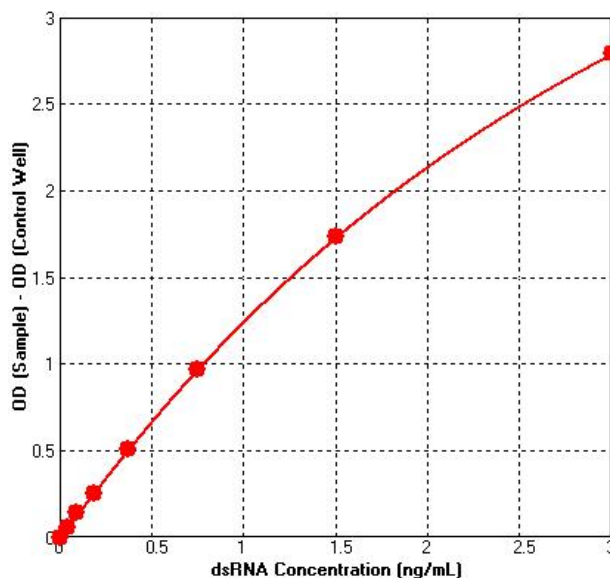

Figure 1 Standard Curve of dsRNA Standard (Unmodified UTP)
- Substitute the OD value of the sample into the fitting equation of the standard curve to calculate the sample concentration, which is the actual concentration of the sample. If the OD value of the sample is higher than the upper limit of the standard curve, perform retesting after appropriate dilution, and multiply the calculated concentration by the dilution factor. A new standard curve shall be generated for each experiment. The standard curve plotted with theoretical concentration standards is shown in Figure 1 below.